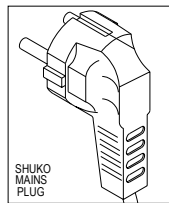

Fig. 1
- Connect the yellow/green wire to the terminal marked with the earth symbol "⏏" (see fig.1).